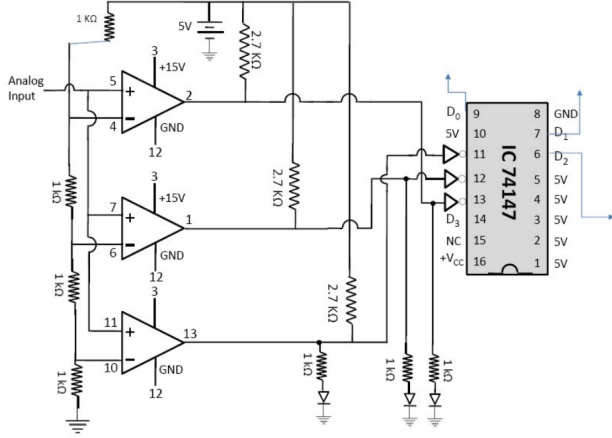

FIG. 2. A 2-bit ADC circuit using LM339 comparator and 74147 priority encoder
This circuit is for the conversion of analog input (any physical quantity such as temperature) to digital output in binary form (which can be read by a computer) and further, it can be converted to binary decimal format. The circuit diagram for the conversion is given in FIG 2.
It is a quad-comparator integrated circuit. It has an open collector, therefore requires pull-up resistors as shown in FIG 2 at the output of the comparator.
- **Resistors, Connecting wires, Breadboard:** to connect the circuit as shown in FIG.2.